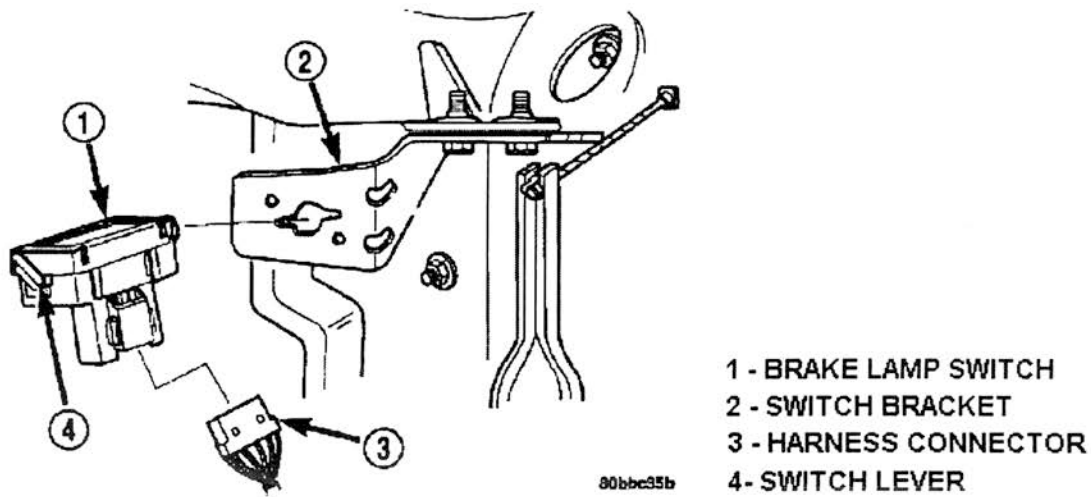

Figure 2
2. Connect the harness connector to the new switch (see Figure 2).
4. Insert the switch into the bracket and rotate it clockwise approximately 30°, to lock it into place. **Note: Mini Van adjustable pedal equipped vehicles rotate counterclockwise.** (Figure 2)